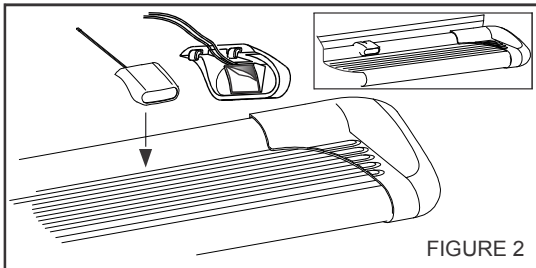
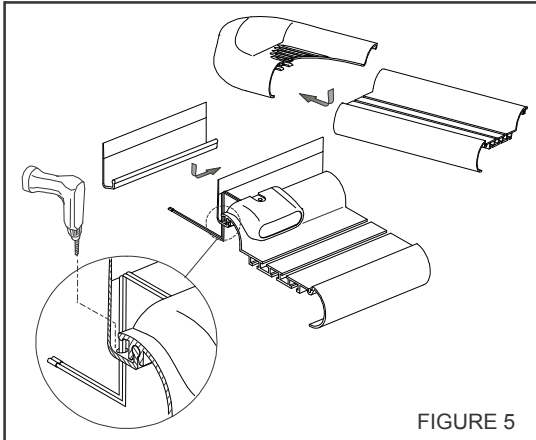

FIGURE 2
FIGURE 5
- STEP 5. For Sure-Grip Running Boards, slide closure strip as shown. Set lights (if purchased) in appropriate location. Attach to Sure-Grip Running Board as shown. SEE FIGURE 2. Drill hole through plastic strip and run wires as shown. SEE FIGURE 5.